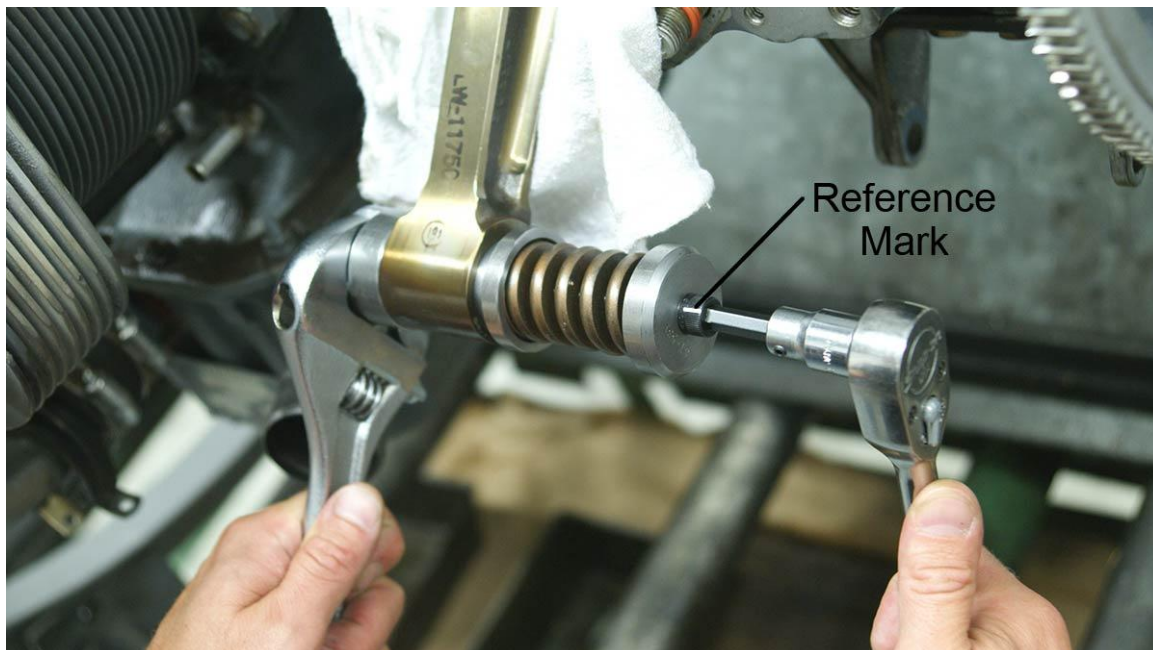

Figure 9
8. Use a wrench to hold the bottom section of ST-531 and turn the bolt with the ratchet and 1/4-inch Allen socket clockwise six full turns (Figure 9). **Do not exceed 6 turns.**